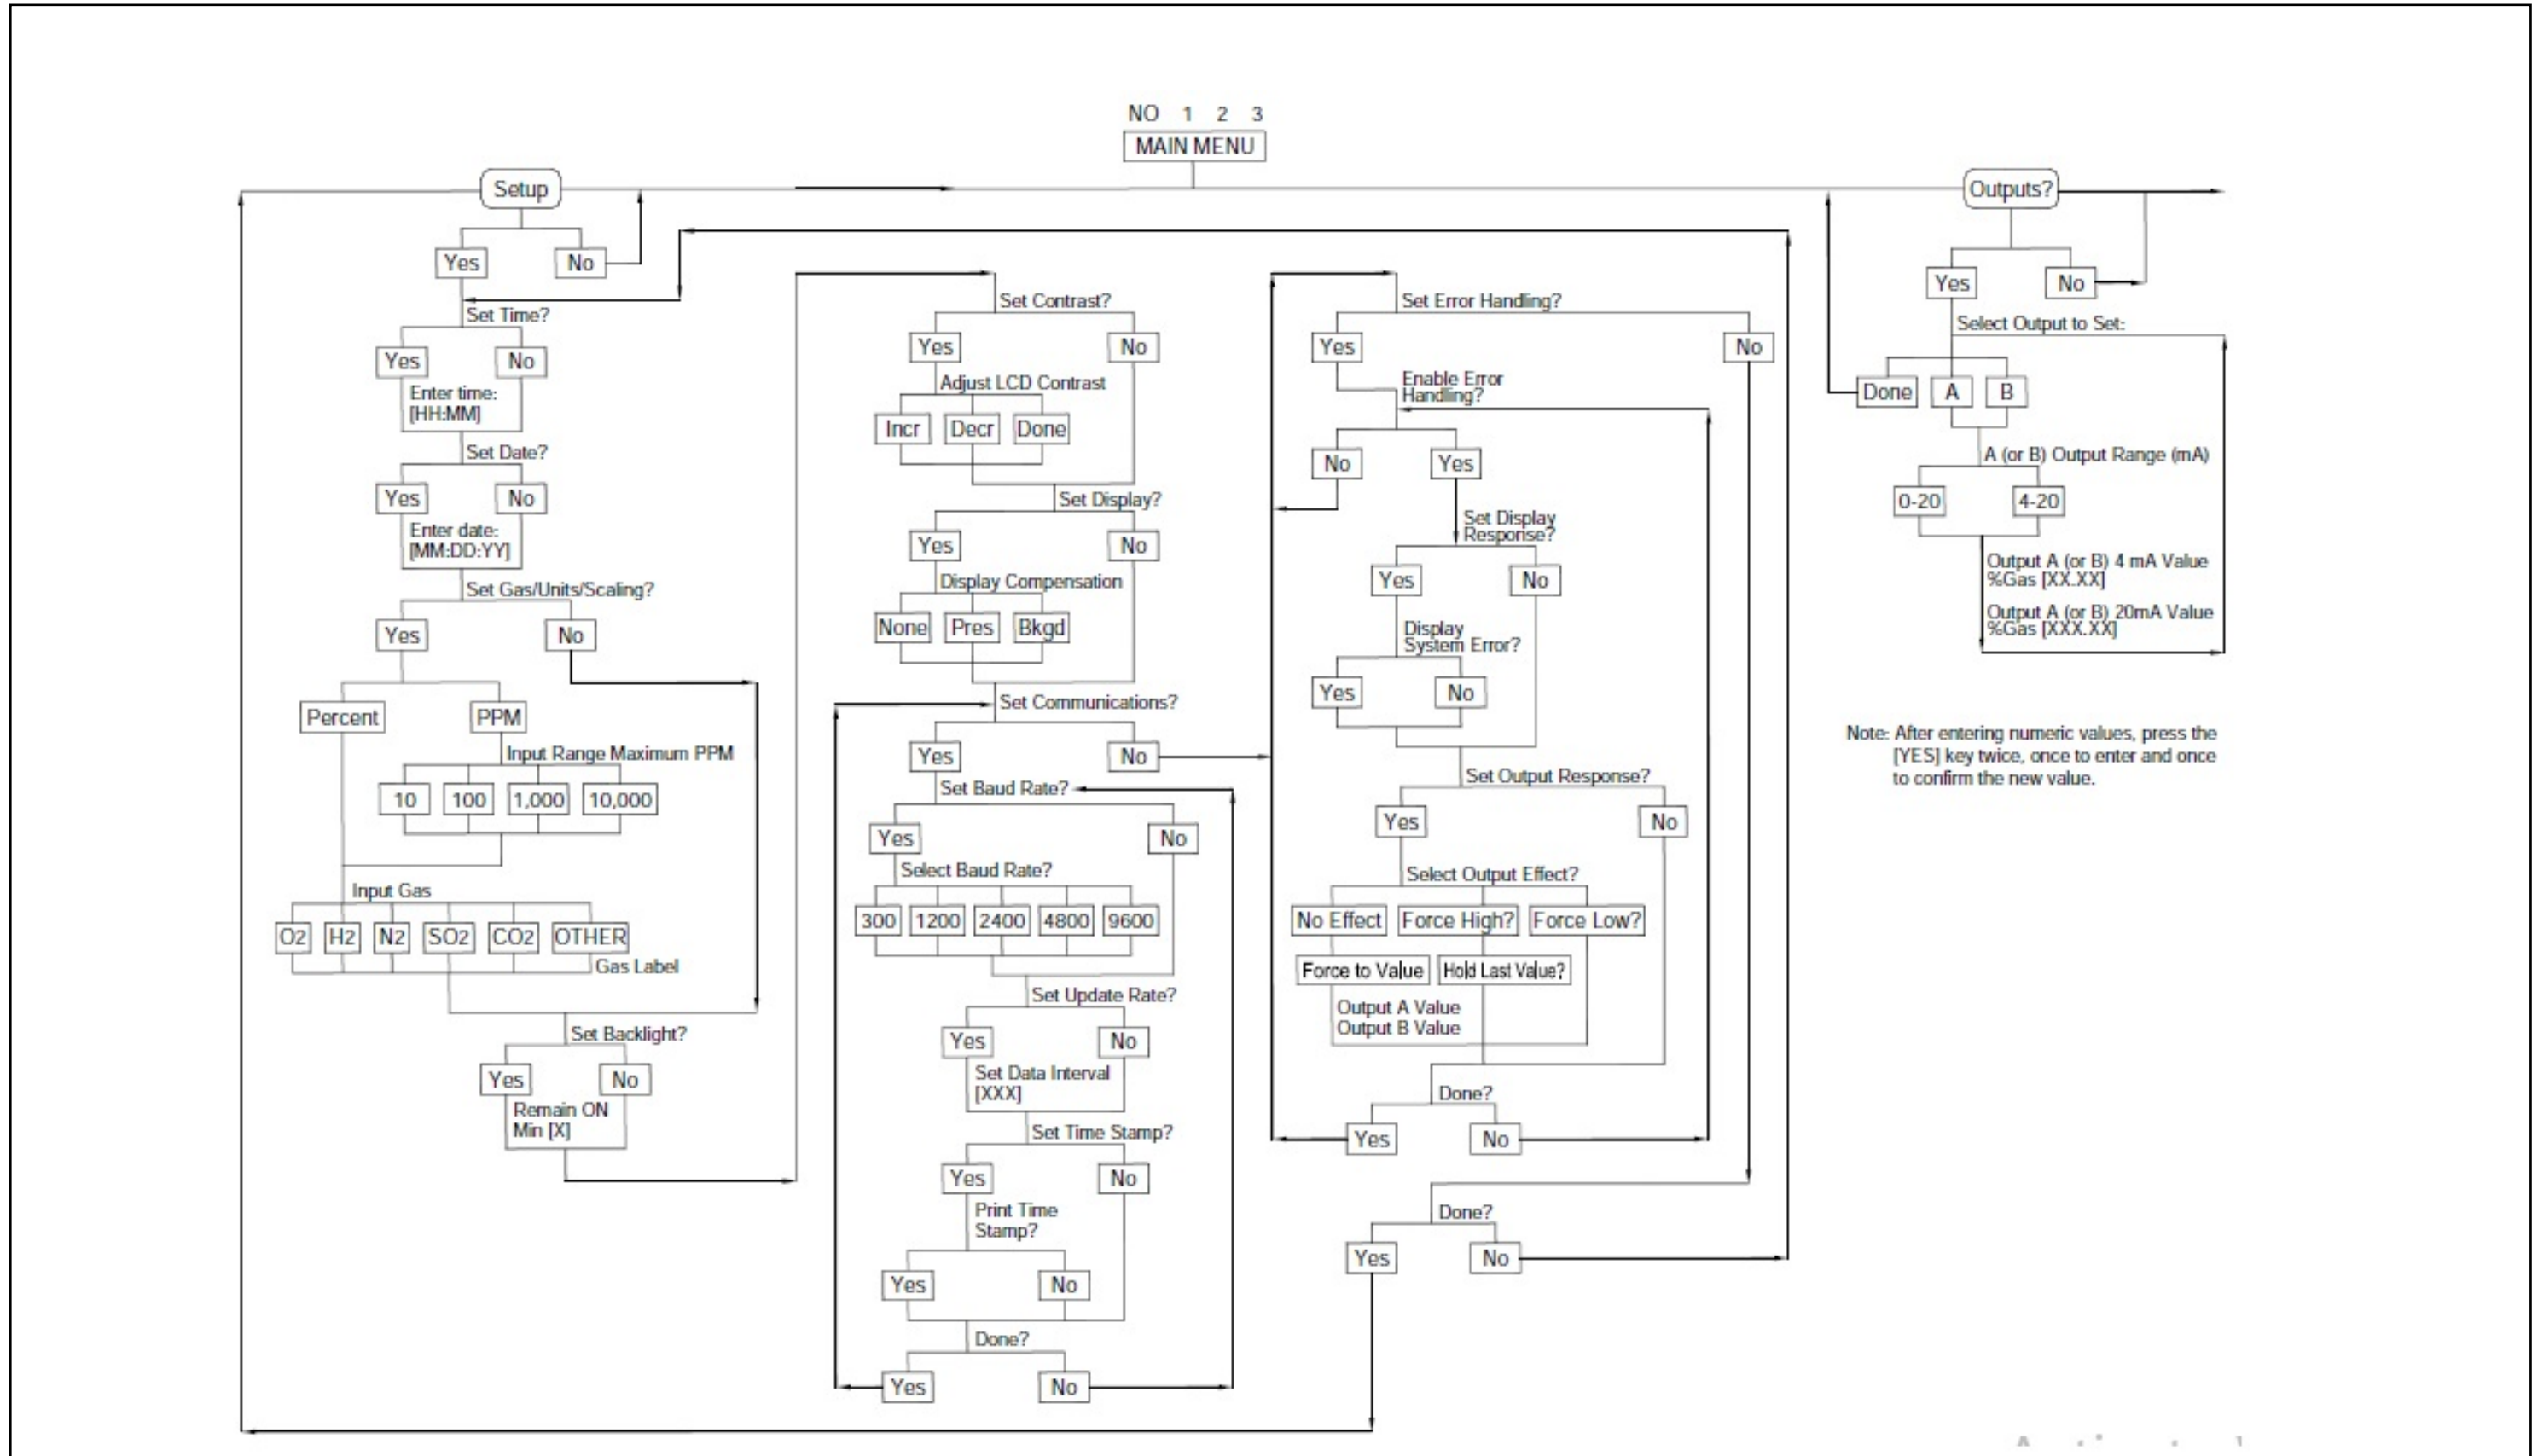

Figure 26: Main Menu: Setup and Outputs
- Figure 26: Main Menu: Setup and Outputs